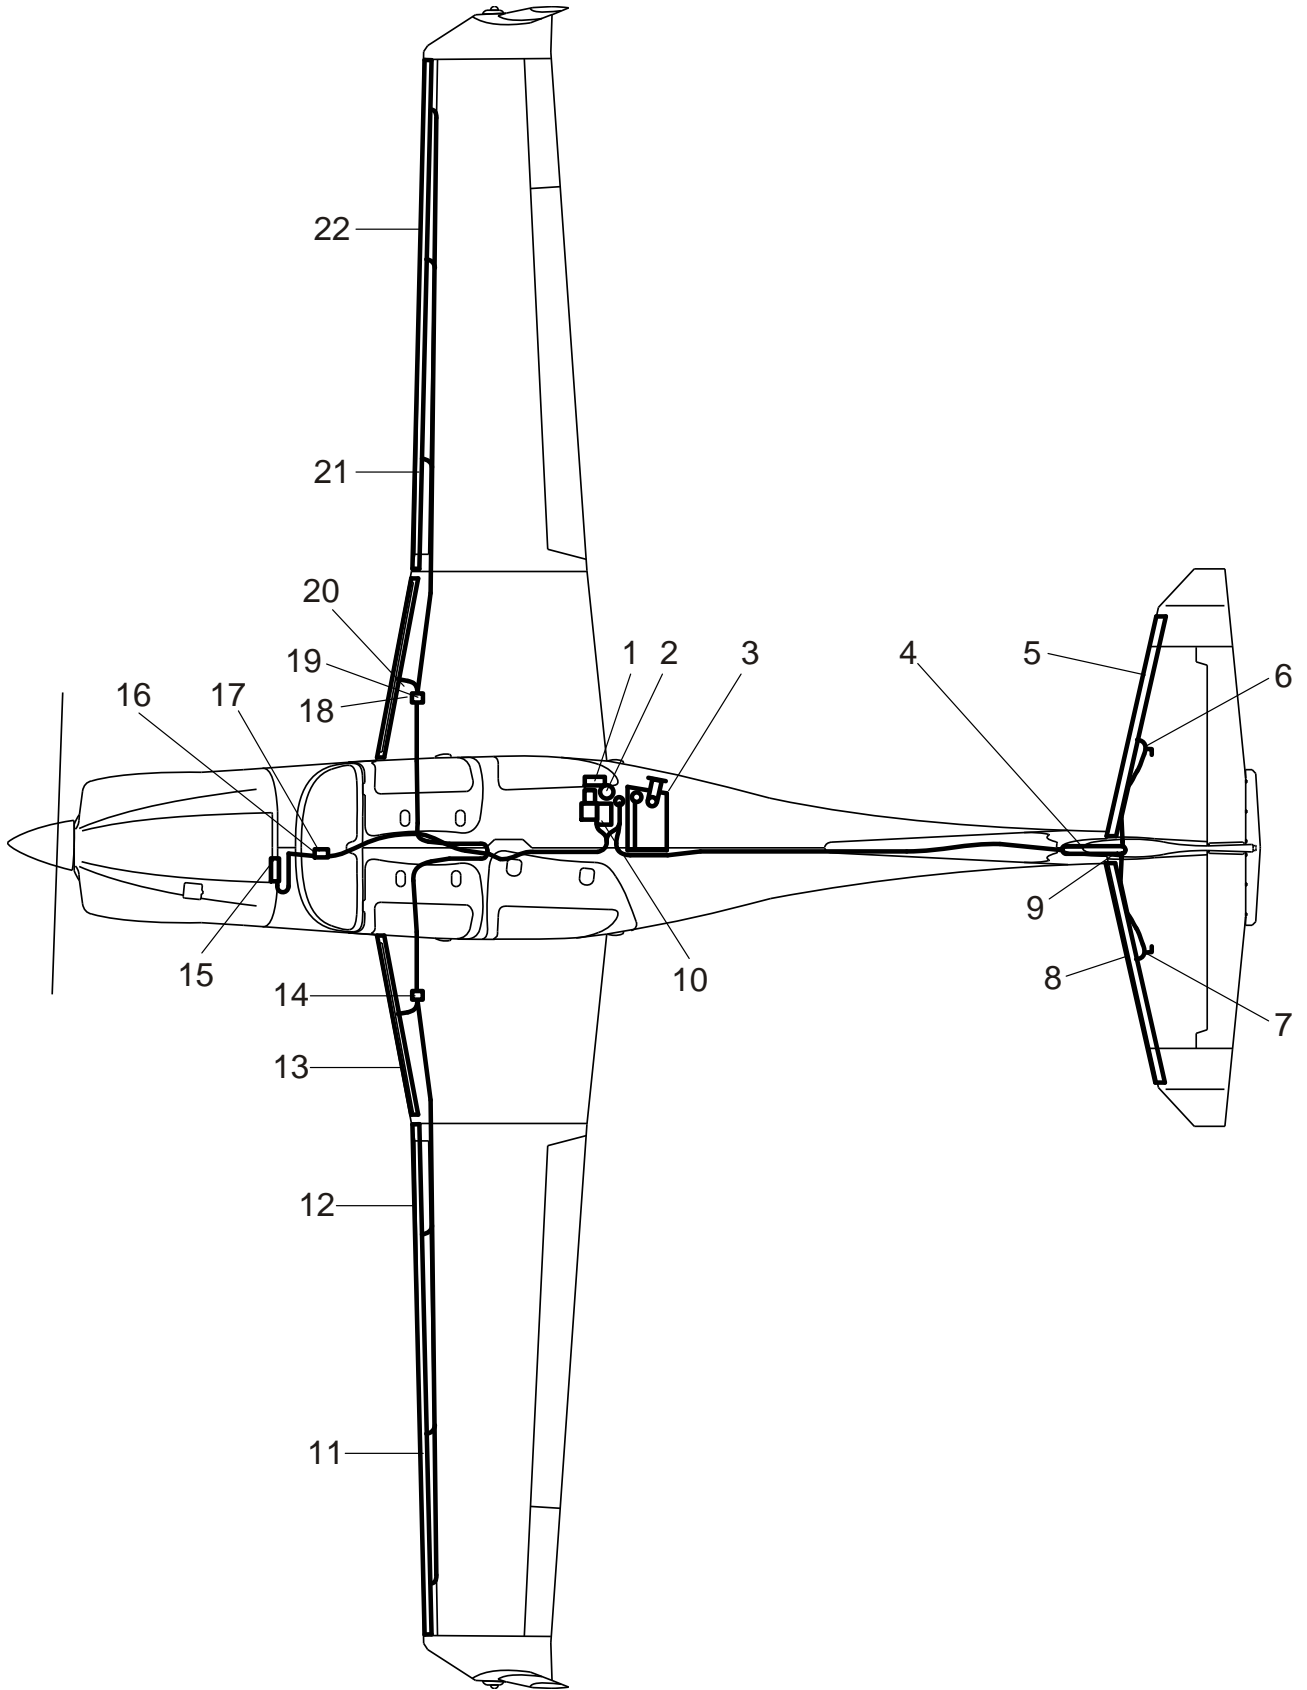
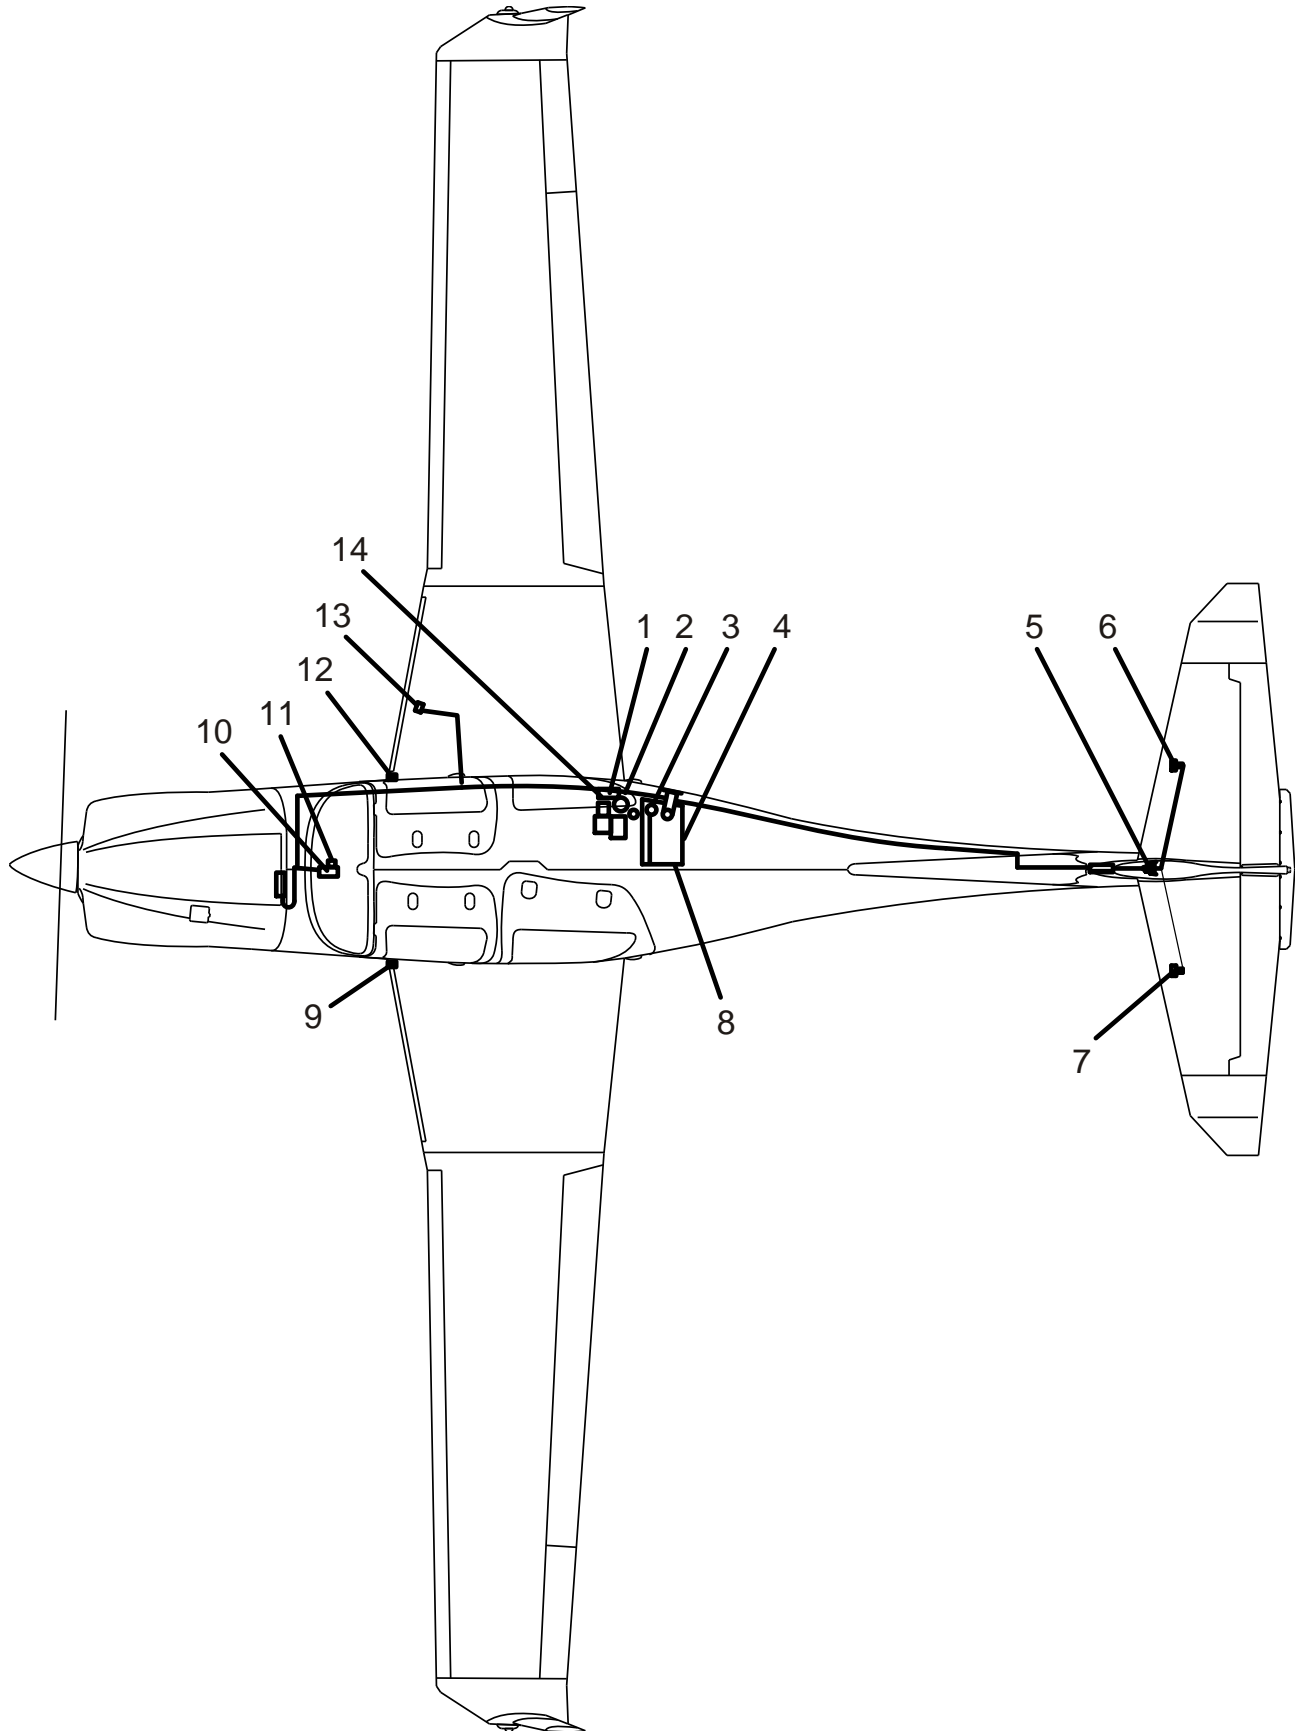

Figure 2 - Ice Protection System - Mechanical System Overview
Figure 3 - Ice Protection System - Electrical System Overview
For the overview of the mechanical systems refer to Figure 2, for the overview of the electrical system refer to Figure 3.
[1, Fig.2]	HP Switch
[2, Fig.2]	Filter
[3, Fig.2]	TKS Fluid Tank
[4, Fig.2]	Vertical Tail Porous Panel
[5, Fig.2]	Horizontal Tail Porous Panel, RH
[6, Fig.2]	LP Switch, Horizontal Tail RH
[7, Fig.2]	LP Switch, Horizontal Tail LH
[8, Fig.2]	Horizontal Tail Porous Panel, LH
[9, Fig.2]	Tail Bracket Assy (LP Switch Vertical Tail and Proportioning Unit Empennage)
[10, Fig.2]	Metering Pumps
[11, Fig.2]	Porous Panel, Outboard Wing, LH
[12, Fig.2]	Porous Panel, Mid Wing, LH
[13, Fig.2]	Porous Panel, Center Wing, LH
[14, Fig.2]	Proportioning Unit, LH
[15, Fig.2]	Spray Nozzles
[16, Fig.2]	Windshield Pump
[17, Fig.2]	Solenoid Valve
[18, Fig.2]	LP Switch, Center Wing, RH
[19, Fig.2]	Proportioning Unit, RH
[20, Fig.2]	Porous Panel, Center Wing RH
[21, Fig.2]	Porous Panel, Mid Wing, RH
[22, Fig.2]	Porous Panel, Outboard Wing, RH
- [1, Fig.3] Control Box
- [2, Fig.3] Metering Pumps
- [3, Fig.3] Fluid Level Gauge
- [4, Fig.3] TKS Fluid Tank
- [5, Fig.3] Tail Bracket Assy (LP Switch Vertical Tail)
- [6, Fig.3] LP Switch, Horizontal Tail, RH
- [7, Fig.3] LP Switch, Horizontal Tail, LH